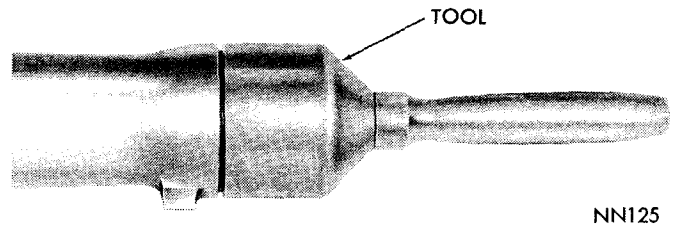
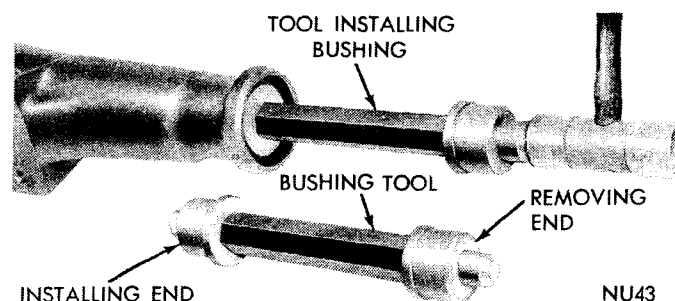

Fig. 22—Installing Extension Housing Yoke Seal
Fig. 24—Replacing Extension Housing Bushing
(3) To install a new seal, position seal in opening of extension housing and drive it into the housing with Tool C-3972 (Fig. 22).
(4) Carefully guide front universal joint yoke into extension housing and on the mainshaft splines. Align marks made at removal and connect propeller shaft to rear axle pinion shaft yoke.
(2) Press or drive out bushing with Tool C-3974 (Fig. 24).
(3) Slide a new bushing on installing end of Tool C-3974. Align oil hole in bushing with oil slot in the housing, then press or drive bushing into place.
(4) Position a new seal in opening of the extension housing and drive it into housing with Tool C-3972 (Fig. 22).